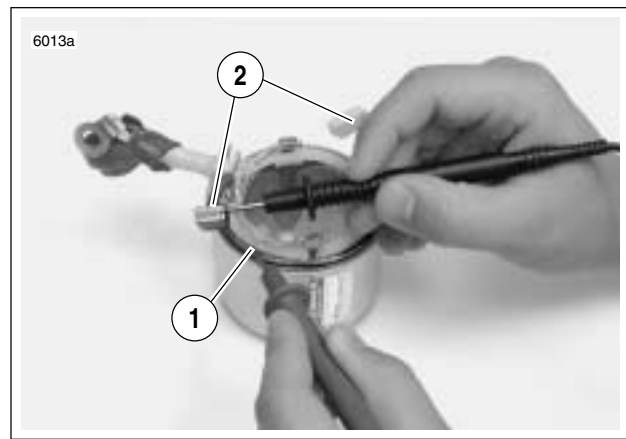
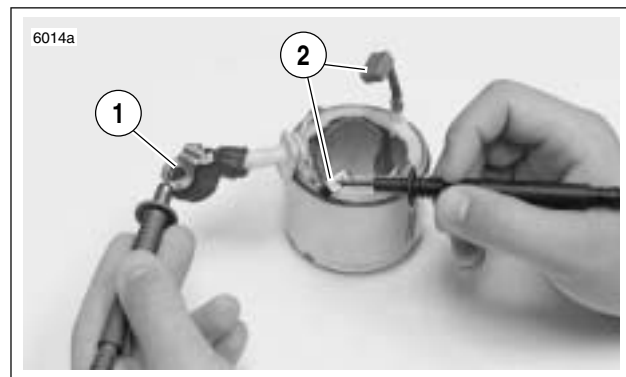
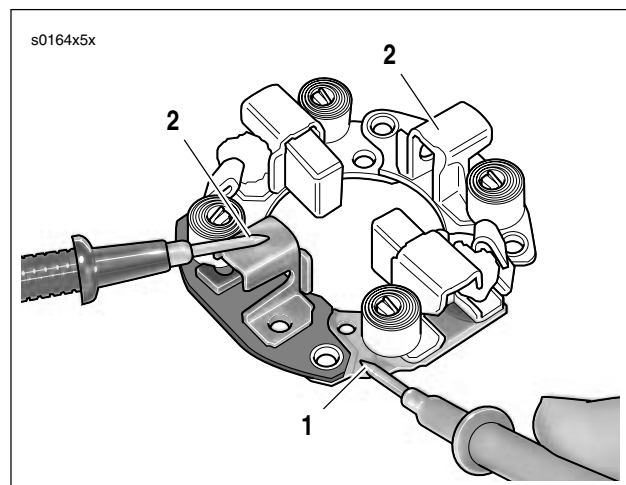

Figure 5-22. Grounded Field Test
Figure 5-23. Open Field Test
Figure 5-24. Brush Holder Insulation Test
12. See Figure 5-22. Check for GROUNDED FIELD COIL with an ohmmeter or continuity tester.
- a. Touch one probe to the frame (1).
- b. Touch the other probe to each of the brushes (2) attached to the field coil.
13. See Figure 5-23. Check for OPEN FIELD COILS with an ohmmeter or continuity tester.
- a. Touch one probe to the field wire (1).
- b. Touch the other probe to each of the brushes attached to the field coil(s) (2).
14. See Figure 5-24. Test BRUSH HOLDER INSULATION with an ohmmeter or continuity tester.
- a. Touch one probe to holder plate (1).
- b. Touch the other probe to each of the positive (insulated) brush holders (2).